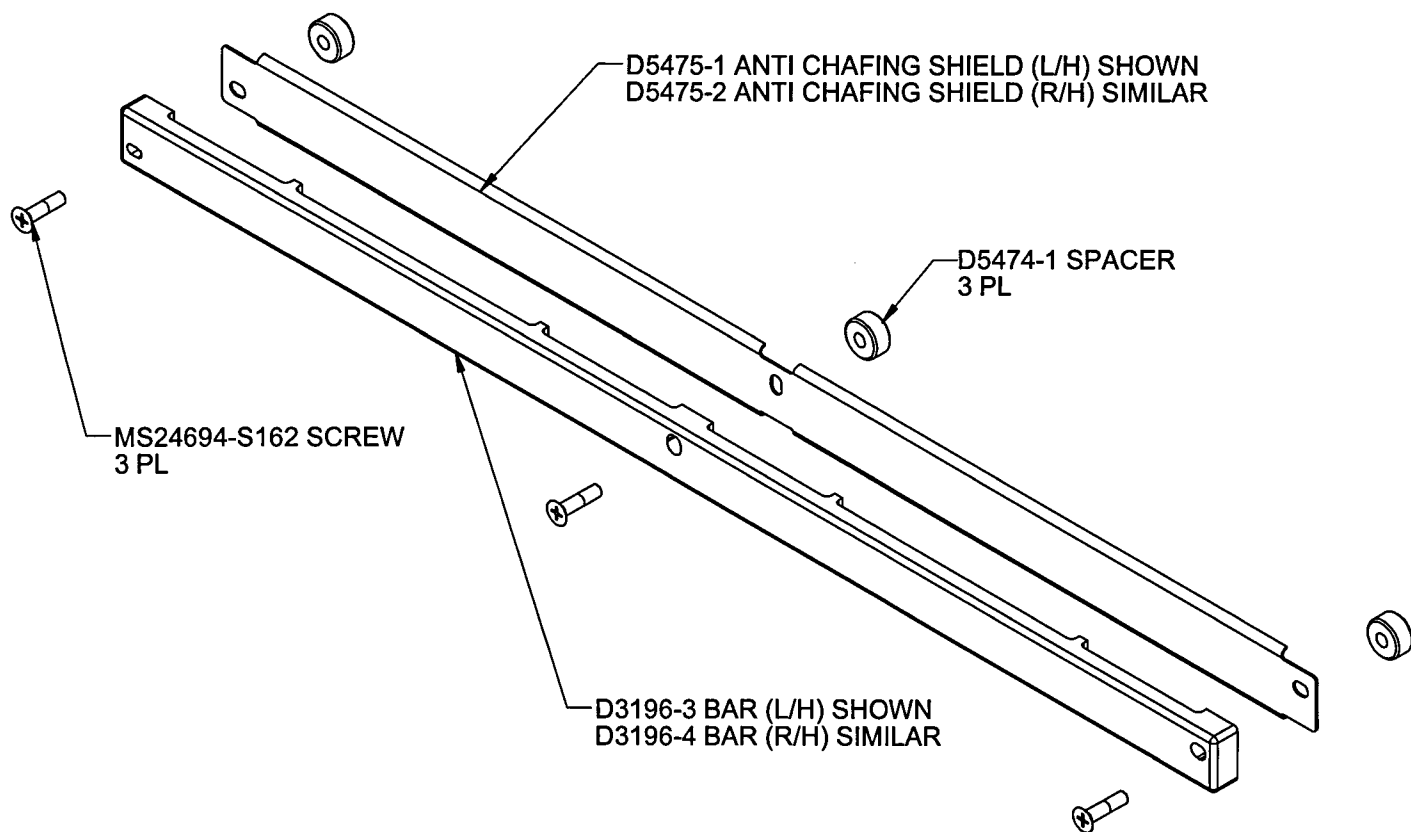

Figure 1: Shoulder Harness Spacer Kit Installation
2. Install the D5475-3/-4 Anti Chafing Shield and Qty (3) D5474-1 Spacers between each D3196-3/-4 Bar and the aircraft structure. Fasten over the OEM thermal blanket to existing aircraft structure using MS24694-S162 Screws. It is acceptable to substitute with longer or shorter MS24694 Screws if required to ensure threads are in in safety. See Figure 1.